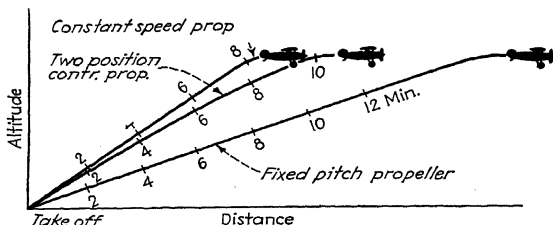

FIG. 1.—Diagram showing how a constant-speed propeller gains altitude in a minimum amount of time.
**Variable Pitch Propellers.**—The variable pitch propeller has several advantages. It permits the use of the most efficient pitch angle at all times. With the fixed propeller, the Department of Commerce and airplane engine builders require the setting of the pitch so that the engine turns at its rated r.p.m. with full throttle at level flight. Although this is necessary to prevent abuse of the engine, it means that the power is held down to about 80 per cent of normal when the plane is taking off. Even the two-position controlled propeller largely avoids this loss, although the constant-speed control permits maximum power at all times. With the two-position controller the low pitch is adjusted for engine power during take-off and climb and the high pitch gives the desired engine speed at level flight. With the constant-speed propeller the manual control gives the pilot a choice of engine speeds. The pitch of the propeller is changed automatically so as to maintain any r.p.m. he selects. The advantage of this is shown in Fig. 1.